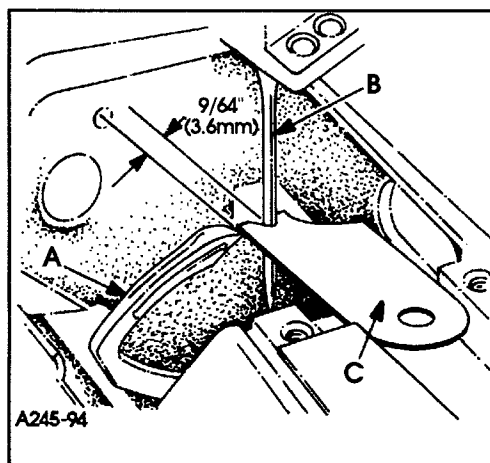
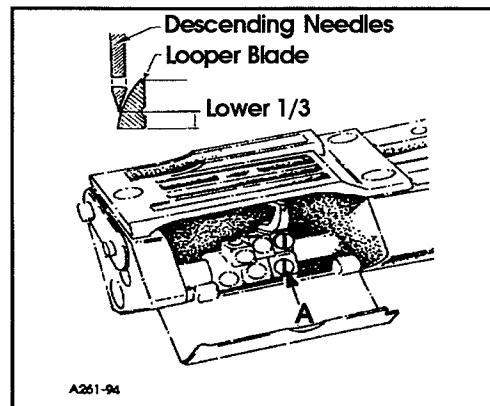

FIG. 6
FIG. 7
Insert a new set of needles, type and size specified. Always adjust the looper (A, Fig. 6) for the left needle first. Set the looper so that the distance from the center of the needle (B) to the point of the looper (A) is  $9/64$ " (3.6mm) when the looper is at its farthest position to the left. Looper gauge (C) No. 21225-9/64 can be used advantageously in making this adjustment. If adjustment is required, loosen screw (A, Fig. 7) in looper holder, permitting movement in either direction to attain the  $9/64$ " (3.6mm) dimension as shown in Fig. 6. Retighten screw (A, Fig. 7). Repeat for other needles and loopers.
Rotate handwheel in operating direction to assure that the looper point passes to the rear of the needle as close as possible without contacting. This adjustment can be made by loosening screw (A, Fig. 7) in looper holder. Looper holder can be moved front to back to attain looper to needle setting. Always check the  $9/64$ " (3.6mm) looper gauge setting after setting the looper to the back of the needle, and conversely, always check the setting of the looper to the back of the needle after setting the  $9/64$ " (3.6mm) looper gauge.
The looper avoid motion is adjustable and should be set so that the descending needle points contact the lower 1/3 of the back of the looper blade. (See Fig. 7).